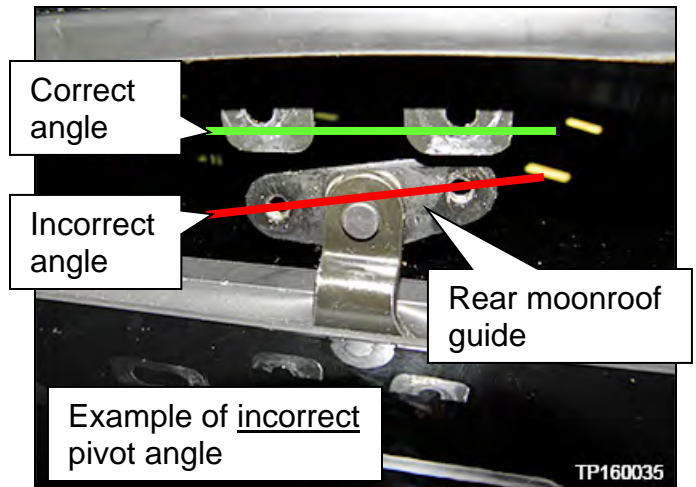

Figure 59
- Figure 59 is shown with screws removed to overemphasize incorrect pivot angle.